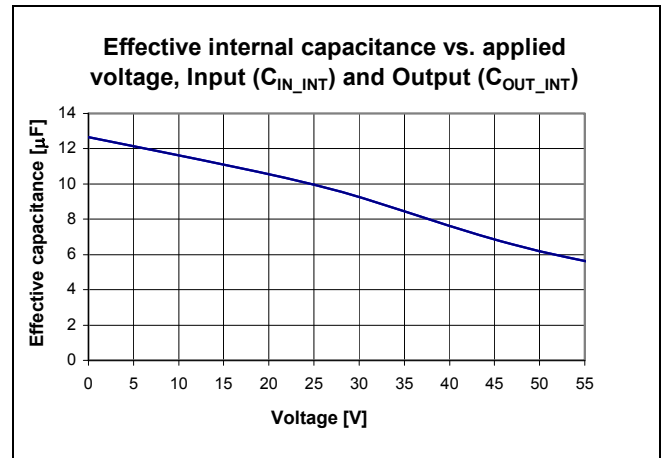

Figure 20 – Effective internal input and output capacitance vs. voltage – ceramic type
- Internal output capacitance: see Figure 20